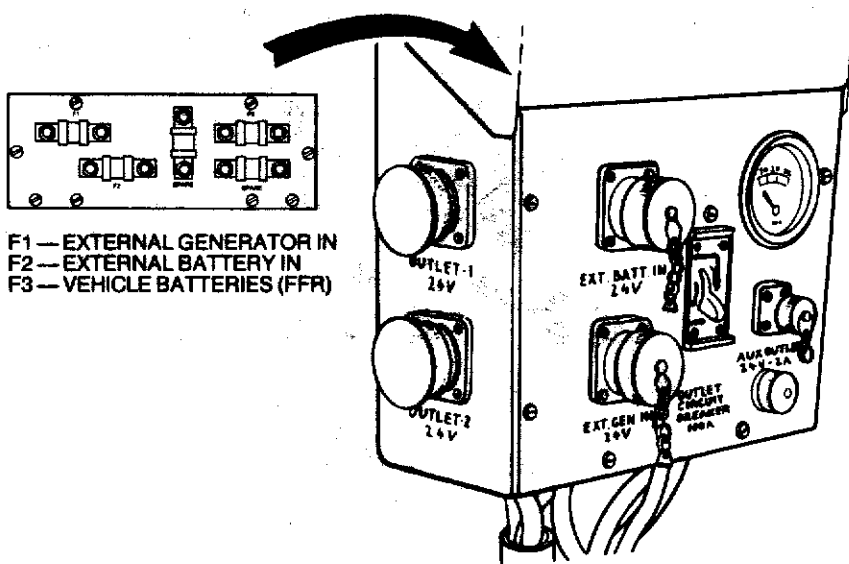

Figure 1-18 Distribution box
92. Distribution box (Fig. 1-18)